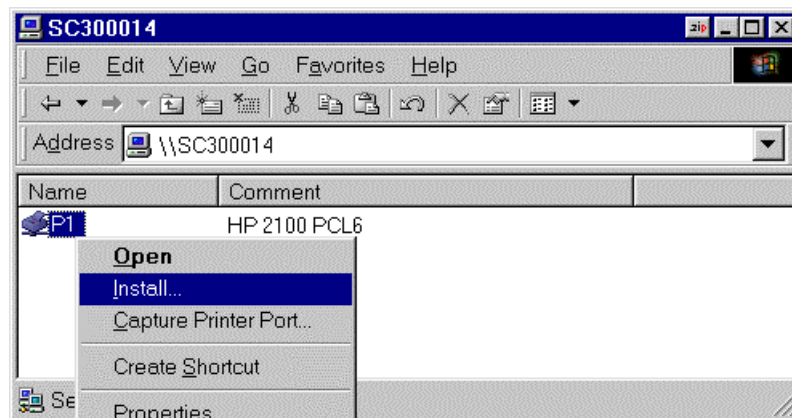

Figure 8: Install SMB Printer
- OR, using the *Capture Printer Port* menu option shown in Figure 8 above.